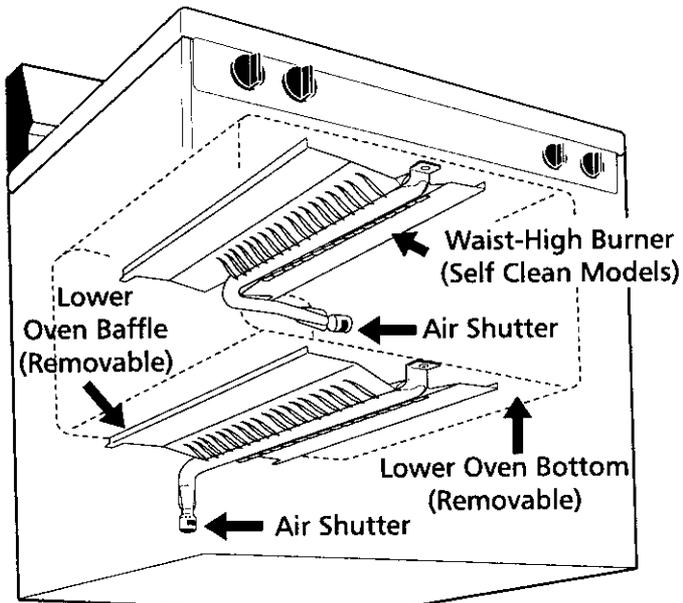

FIGURE 10
- Turn off oven and allow to cool before adjusting air shutter. To adjust loosen lock-screw (See Figure 10), reposition air shutter, and tighten lock-screw.